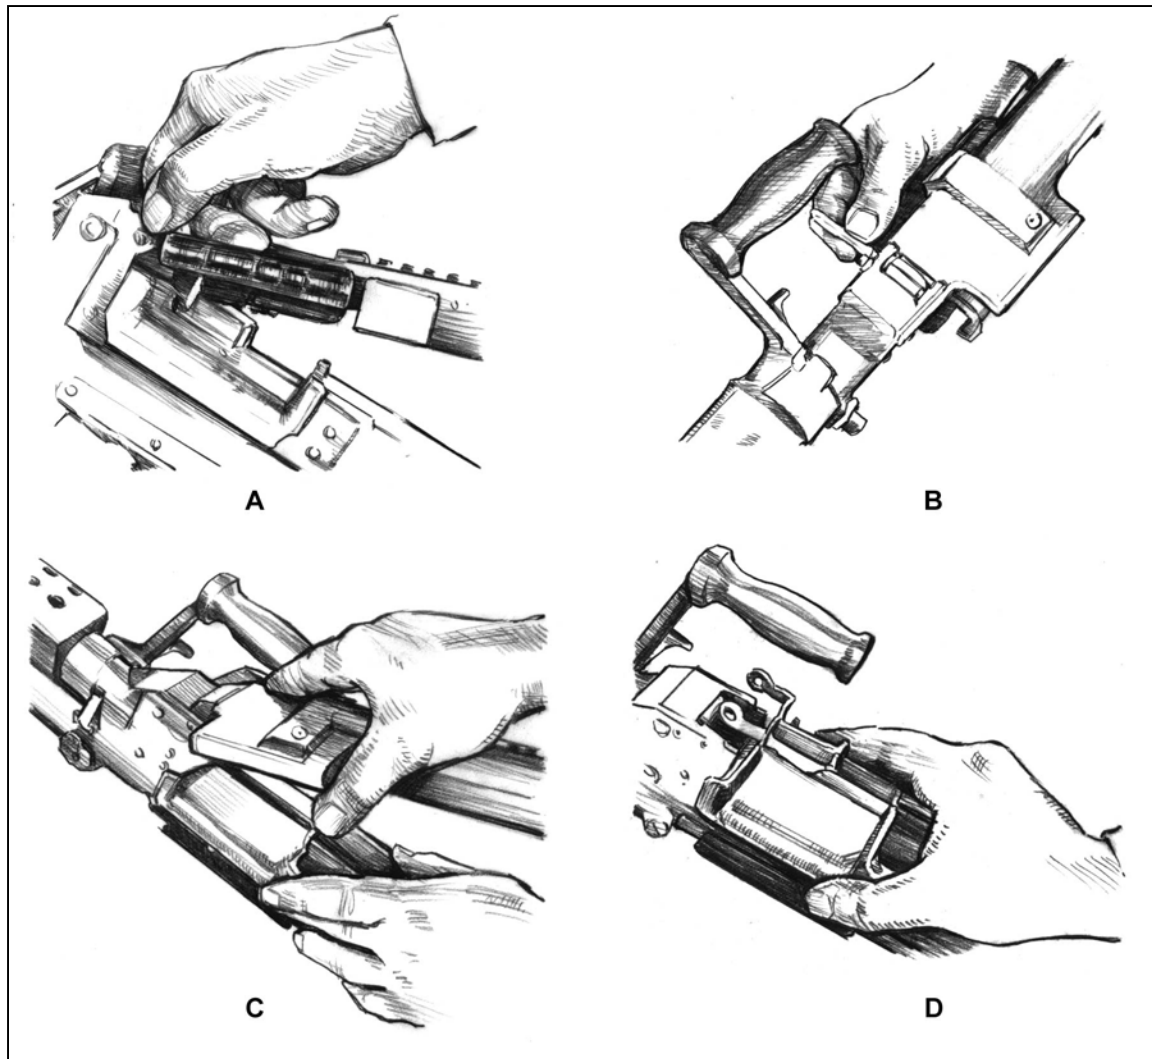

Figure 3-17. Removal of cover, feed tray, and spring pin.
e. **Remove the Cover Assembly.** (A) Close cover. Depress spring pin and remove. You may need to use the back of the back plate of the buttstock to tap on the spring pin. (B) Then remove pin with fingers. All pins go from right to left. (C) Depress cover latches, lift upwards and remove cover assembly. (D) Remove feed tray (Figure 3-17, page 3-16).